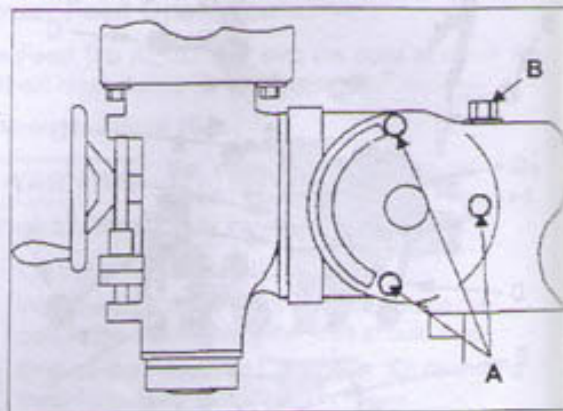

Figure 20
- a. Loosen the three ram adapter clamp bolts on the ram (refer to Figure 20). There is no need to loosen the bolts more than 1/2 turn to allow tilting.